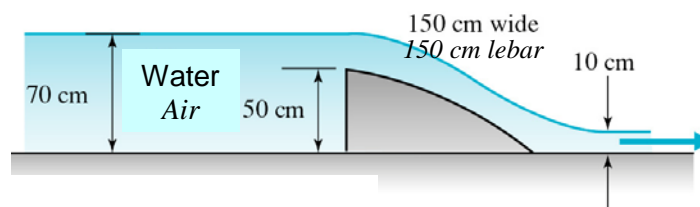

Figure 8 / Rajah 8
- [b] Neglect viscous effect, assume uniform velocity profiles and find the horizontal force component acting on the obstruction shown in Figure 8.